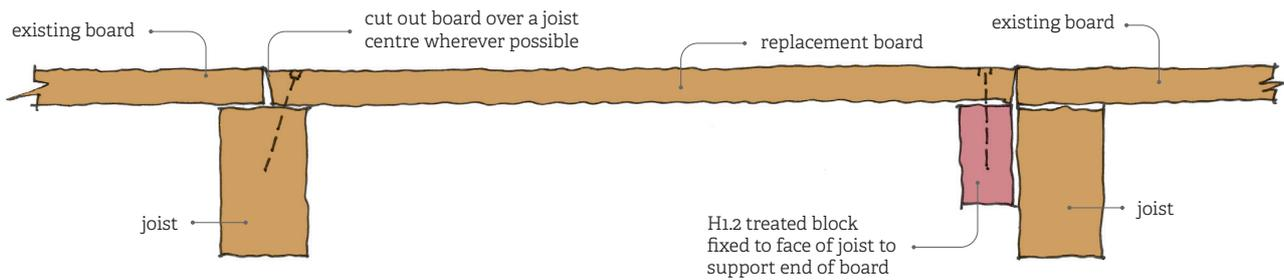

Figure 3: Fixing support blocks to joists.
End joints must be made over joists. Where it is not possible to fix over a joist such as at the edge of the floor adjacent to a wall, remove the damaged floorboard up to the joist. Cut and fix a block to the face of the joist ensuring that the block is flush with the top face of the joist to support the end of the board – see Figure 3.
6. If the replacement board abuts the skirting board, it should be undercut – fitted underneath the skirting rather than scribed to it. If possible, slide the replacement floorboard under the skirting. Alternatively, remove the skirting board before laying replacement boards. When cutting over a floor joist, take care to avoid nails from the original fixing. If it is too difficult to remove the section of the floorboard over the joist without damaging tools, cut the floorboard at the edge of the joist. Nail a block to the side of the joist to provide a nailing surface for the new floorboard to be installed – see Figure 3.